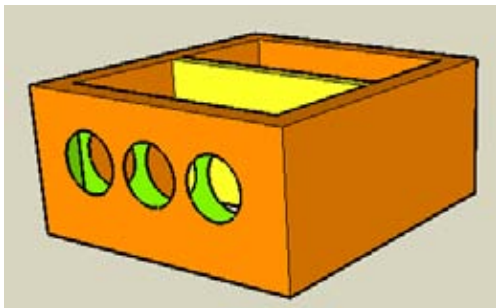

Figure 3-54
5. Remove the circular faces from the four walls where they appear. Because the cutout group is gone, there are no window frames, just holes within a shell (Figure 3-54).